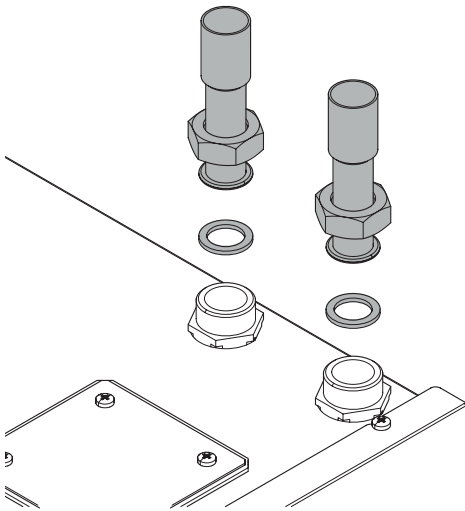

Fig. 6.3
- The boiler is supplied with 22 mm copper tails for both upwards (Fig. 6.3) flow and return pipe routing suitable for compression or soldering connections. The paper template supplied with the boiler, gives a real size view of the copper pipes that helps to identify them.